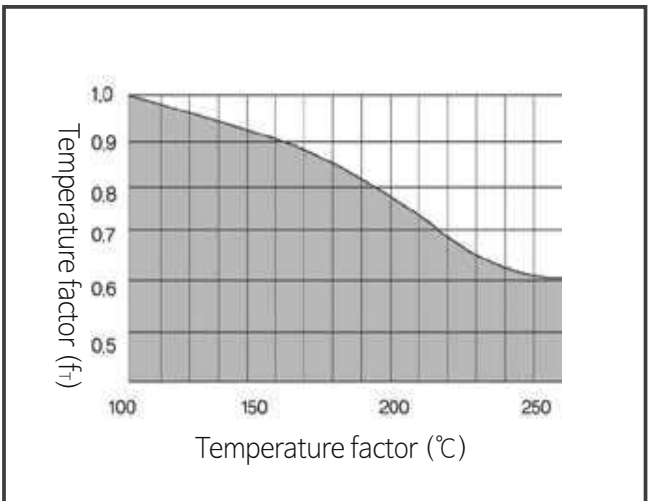

Figure 3. Temperature factor (fT)
- fT : Temperature factor (See Figure 3.)